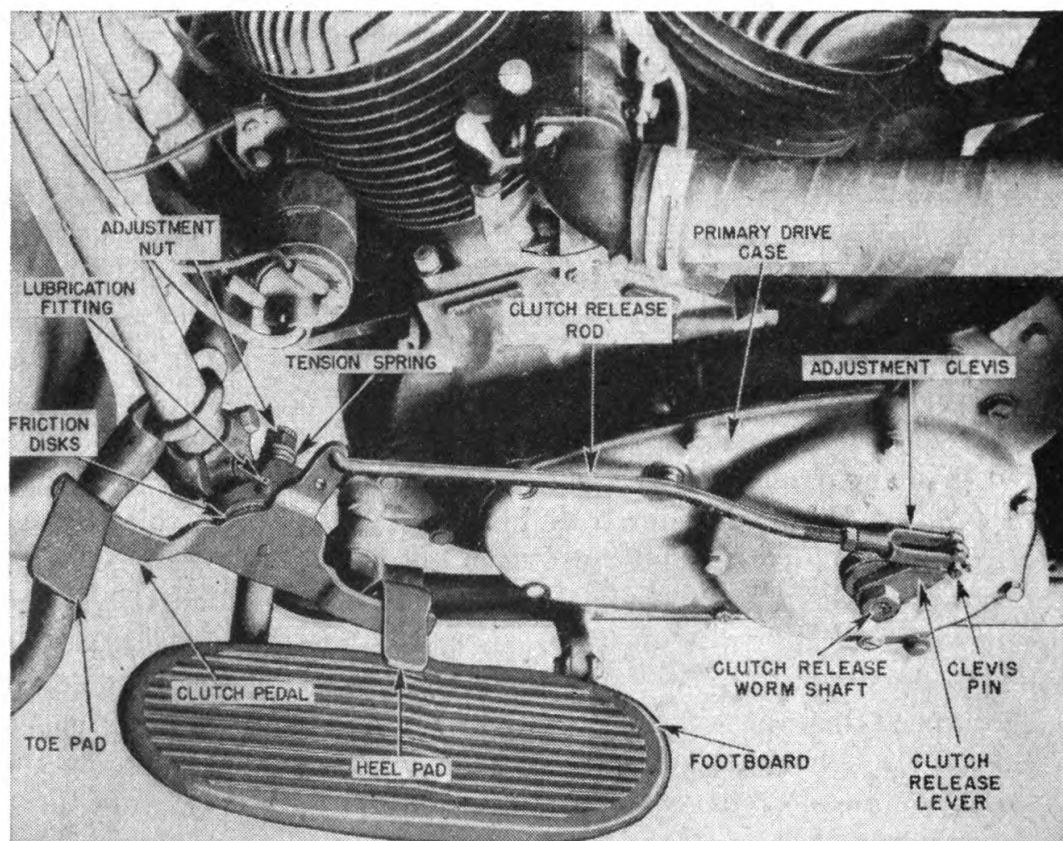
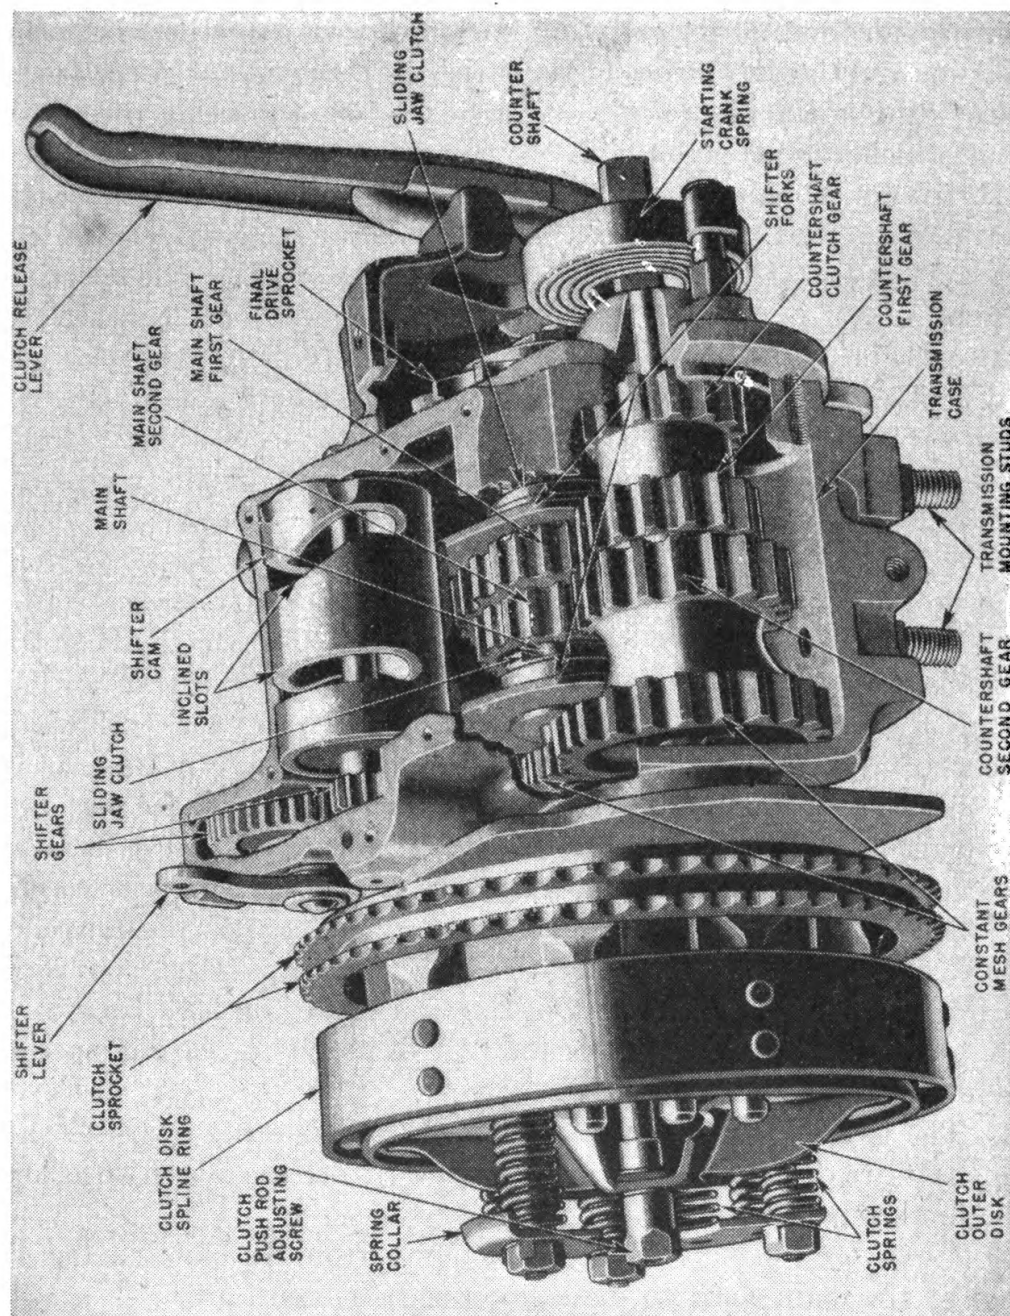
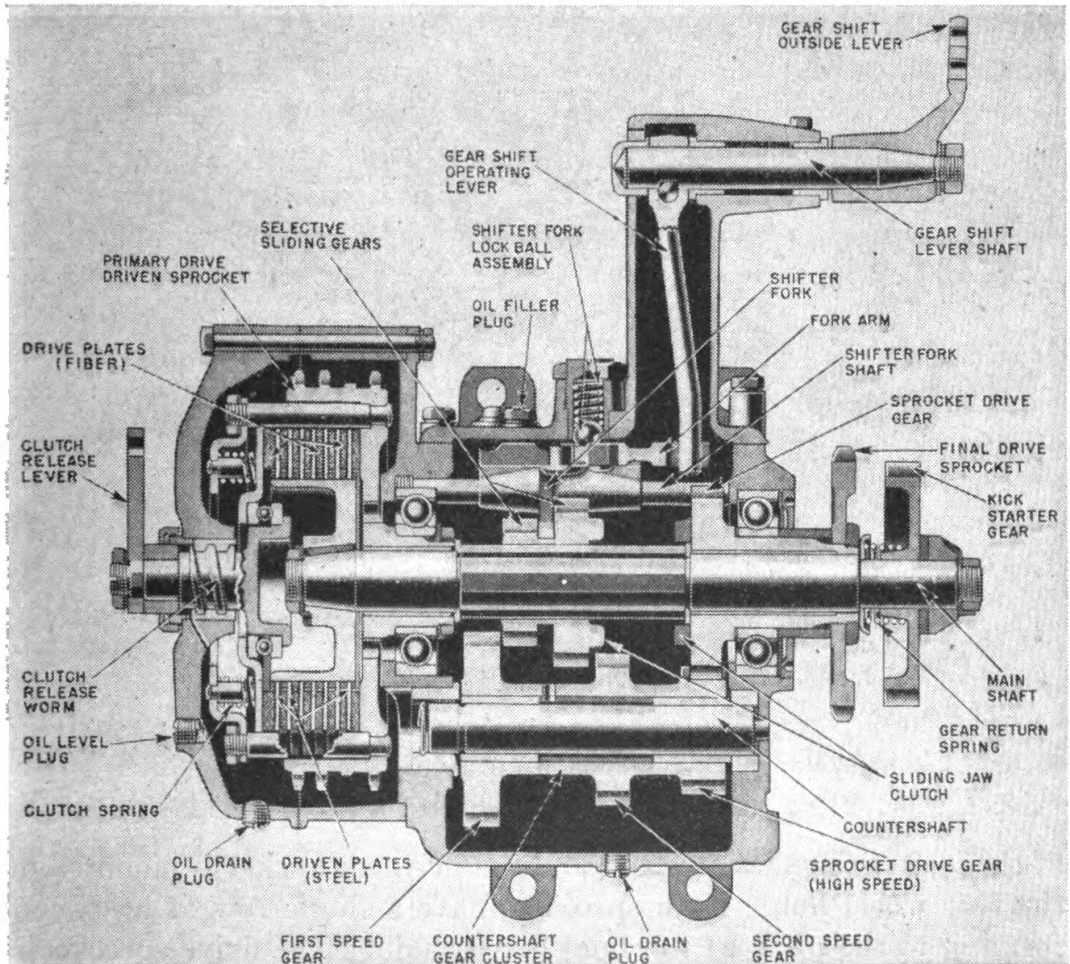

FIGURE 43.—Clutch operating linkage.
FIGURE 44.—Three-speed progressive transmission.
FIGURE 45.—Three-speed selective transmission.
*a. Disks.*—Motorcycle clutches on chain-driven models are of the multiple disk type (figs. 44 and 45). Steel plates and fiber-lined plates are set alternately in the clutch housing. One set of plates (driving disks) is keyed to the primary drive driven sprocket and the other set (driven disks) is keyed to the main shaft of the transmission. On the Indian, which has an oil-bath primary drive, "wet" type disks operate in oil. On the Harley-Davidson, which has a pressure-lubricated primary drive, "dry" type disks operate without oil.
*c. Linkage.*—The clutch is engaged or disengaged by moving the push rod on the Harley-Davidson (fig. 44) and by rotating the release worm on the Indian (fig. 45). Both the push rod and the release worm are actuated by a clutch release lever connected by a clevis pin to a clutch release rod and pedal on the outside of the primary drive case (fig. 43). It is necessary to allow about  $\frac{1}{16}$ - to  $\frac{3}{32}$ -inch play in the operating linkage so that the disks are perfectly free and not dragging when the clutch is engaged. The amount of play can be adjusted by turning the clevis at the end of the clutch release rod. Figure 43 shows that the clutch pedal itself has two pads, the toe pad (forward) and the heel pad (to the rear). In figure 43 (Indian), the clutch is shown in an engaged position; the heel pad is depressed
almost to the footboard. In a disengaged position, the toe pad should be pressed forward as far as possible. On the Harley-Davidson, the operation is reversed. Clutch pedals are provided with friction disks and a tension spring (fig. 43) which hold the clutch in any position. This enables the rider to disengage the clutch and use both feet to maintain a balance when stopping, without danger that the clutch will snap back into engaged position. It also allows him to hold the clutch in an engaged position when starting the engine.
*a. Progressive type.*—The transmission illustrated in figure 44 is of the constant-mesh progressive type with three speeds forward. The main shaft gears and mating countershaft gears float on their shafts and are in constant mesh. Power from the clutch shaft is transmitted through the gears by sliding jaw clutches which engage with slots in the gear hubs. These clutches are permanently keyed to the splined main shaft. Proper road speeds are obtained by sliding the clutches into engagement with gears which provide the desired speed reduction. These gears then become driving members. The shifter forks which move the sliding clutches are actuated by the rotation of a shifter cam. As this cam is rotated slightly by the gear shift linkage, shifter fork pins following inclined slots cut in the cam move the fork back and forth. The function of the gears and flow of power for various speeds is as follows:
(1) The two sliding clutches used to fix the floating gears to the main shaft are disengaged. No power flows from the clutch sprocket to the final drive sprocket.
(2) To fill this transmission properly with lubricating oil, the motorcycle should be standing upright. Remove the plug and fill the case until the oil just appears in the filler neck.
b. *Selective type.*—Figure 45 shows a three-speed selective transmission. Gears are shifted by a shifter fork which operates sliding